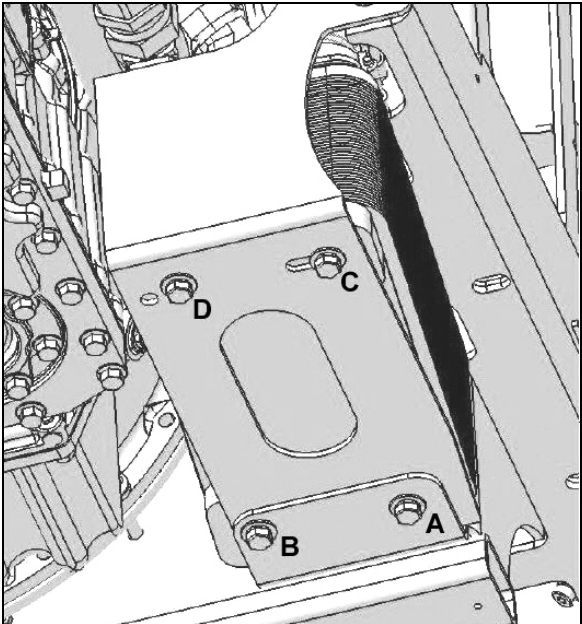

FIGURE 17: NORMAL OIL COOLER POSITION
- 2. Remove bolts B and D. Untighten bolts A and C then pivot oil cooler as per Figure 17. Install bolts B and D and tighten all bolts.